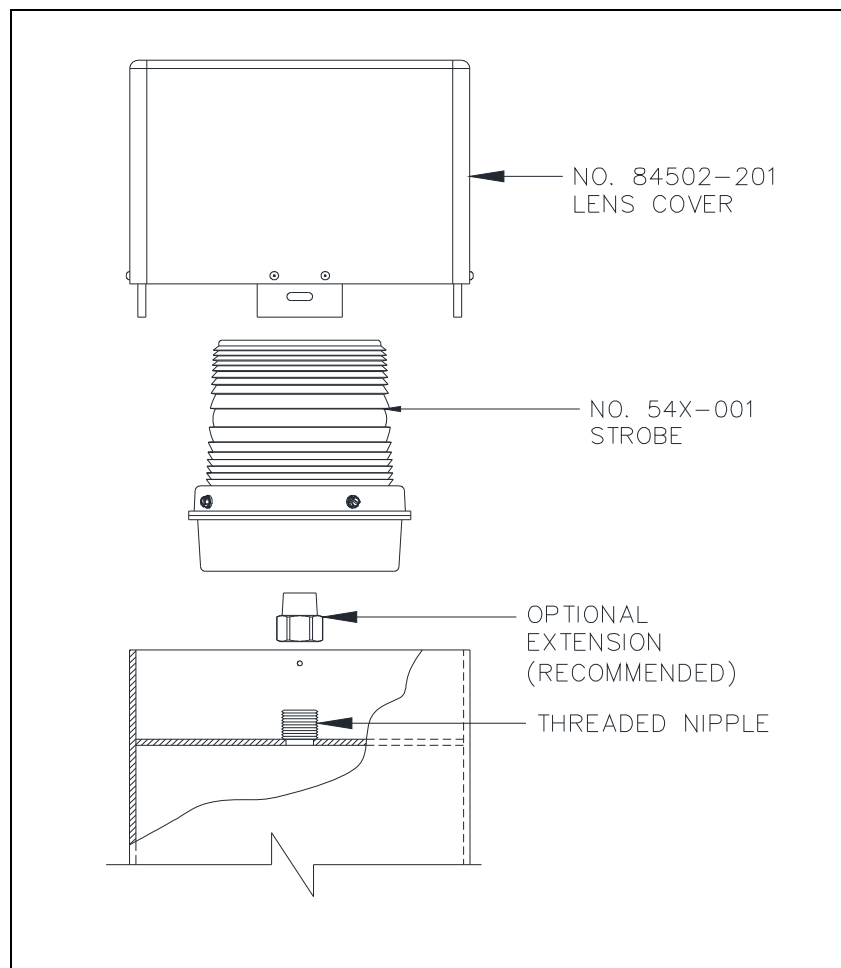

Figure 8. Strobe Assembly
2. Insert the strobe's 15-foot wires through the extension (when installed) and the tower's threaded nipple and allow the wires to extend to the base of the tower (see Figure 8).